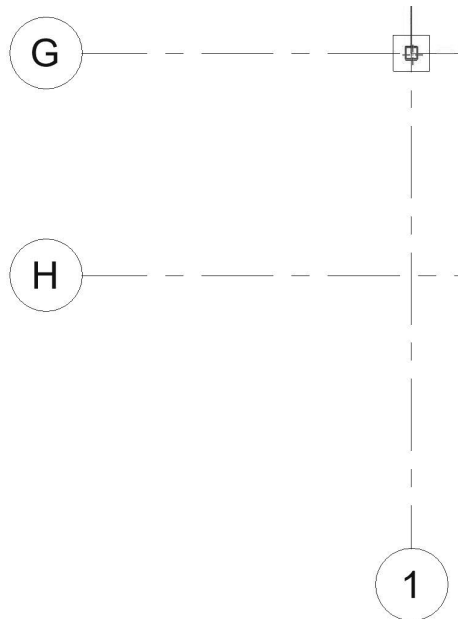

Figure 7–35
7. Select the start point by snapping to the **G1** grid intersection, as shown in Figure 7–35.